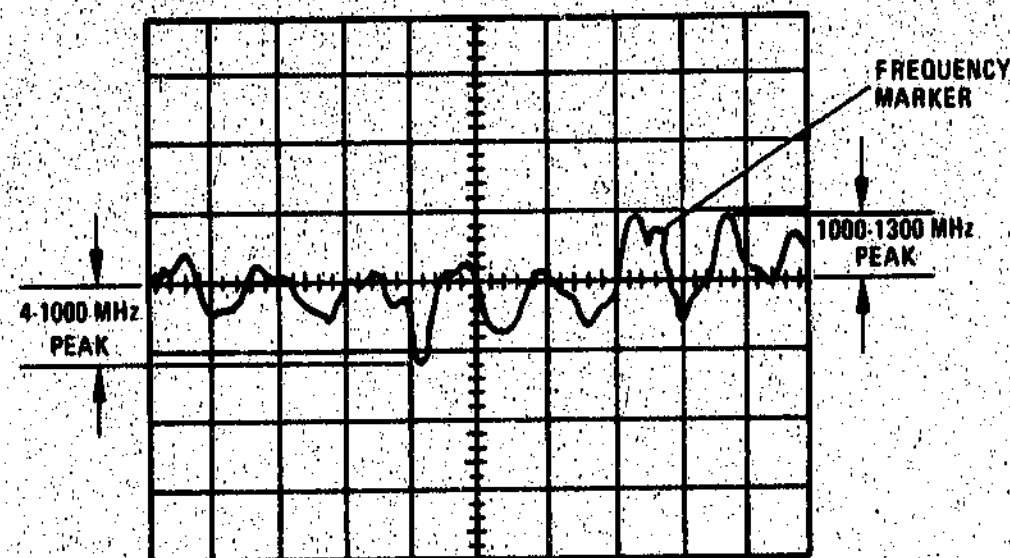

Figure 4-5. Typical Open/Short Response
- f. Remove the Short from the air lines and note the points of peak response (greatest distance from the center line) above and below the 1000 MHz marker. Refer to Figure 4-5 for a typical response on the CRT.
- n. Note the peak above and below the 1000 MHz marker as seen in example on Figure 4-5. For 4-1000 MHz, the trace must not deviate from the center line more than 1.2 divisions (open/short ratio $\leq \pm 6$ deg). For 1000-1300 MHz, the trace must not deviate from the center line more than 1.5 divisions (open/short ratio $\leq \pm 7.5$ deg).